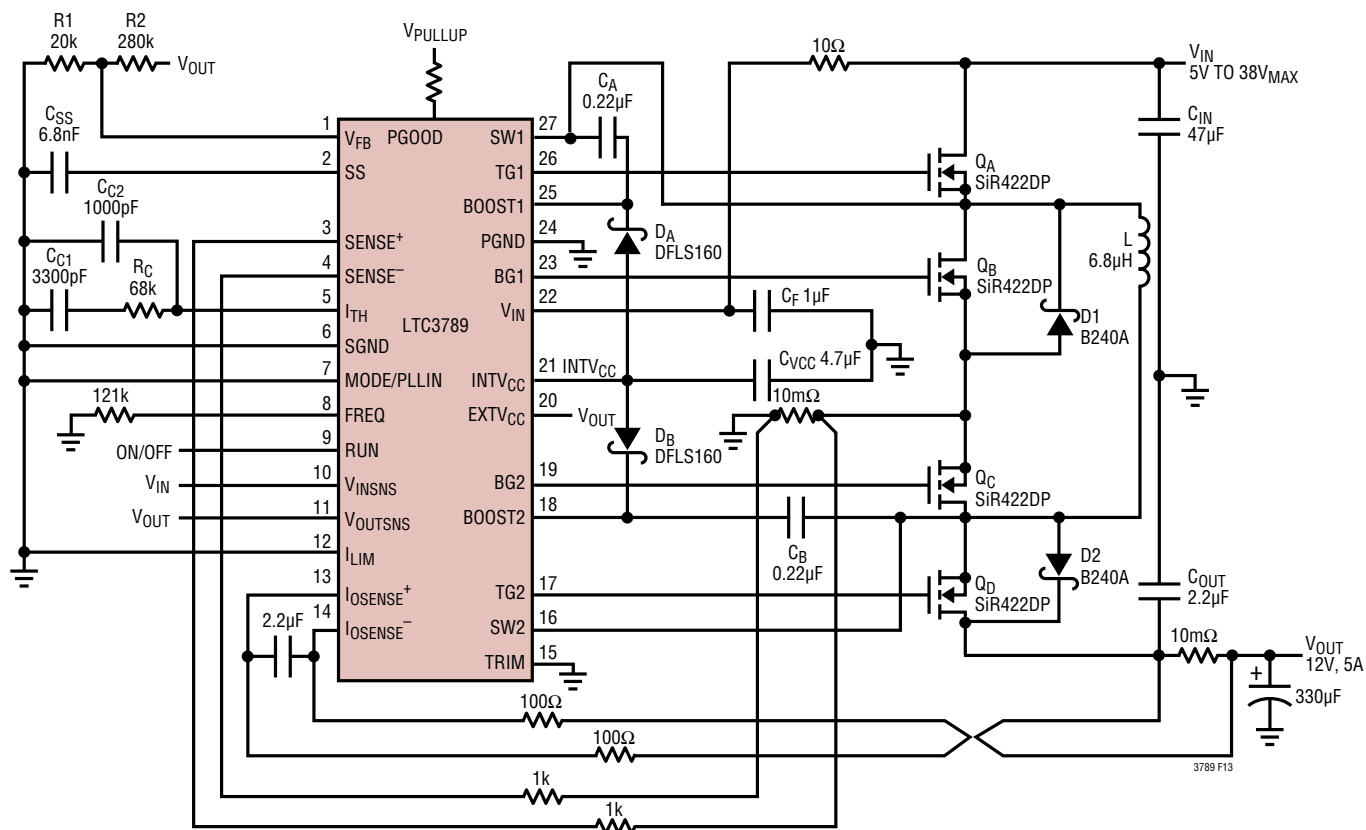

Figure 13. LTC3789 12V/5A, Buck-Boost Regulator
Referring to Figure 13, the external bootstrap capacitors C_A and C_B connected to the BOOST1 and BOOST2 pins supply the gate drive voltage for the topside MOSFET switches A and D. When the top switch A turns on, the switch node SW1 rises to V_{IN} and the BOOST1 pin rises to approximately $V_{IN} + INTV_{CC}$. When the bottom switch B turns on, the switch node SW1 drops to low and the boost capacitor C_A is charged through D_A from $INTV_{CC}$. When the top switch D turns on, the switch node SW2 rises to V_{OUT} and the BOOST2 pin rises to approximately $V_{OUT} + INTV_{CC}$. When the bottom switch C turns on, the switch node SW2 drops to low and the boost capacitor C_B is charged through D_B from $INTV_{CC}$. The boost capacitors C_A and C_B need to store about 100 times the gate charge required by the top switches A and D. In most applications, a 0.1μF to 0.47μF, X5R or X7R dielectric capacitor is adequate.
- Flood all unused areas on all layers with copper. Flooding with copper will reduce the temperature rise of power components. Connect the copper areas to any DC net (V_{IN} or GND). When laying out the printed circuit board, the following checklist should be used to ensure proper operation of the LTC3789. These items are also illustrated in Figure 13.